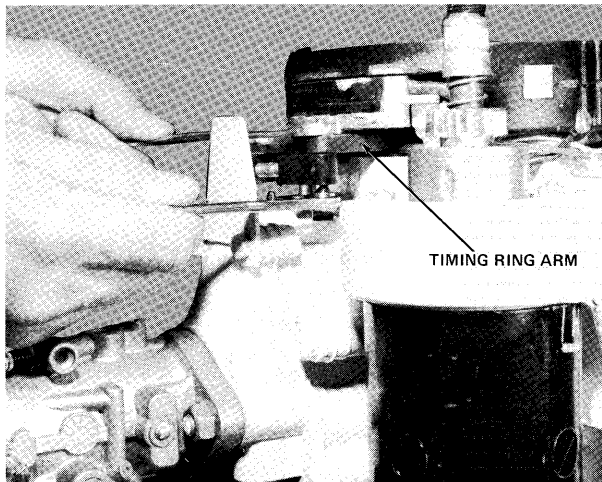

Figure 26 - Removing Spark Control Link from Timing Ring Arm
- B. Remove screw, stop nut and bowed washer securing spark control link to timing ring arm as shown in figure 26.
- E. Install screw, stop nut and bowed washer securing spark control link to timing ring arm. (See figure 26)